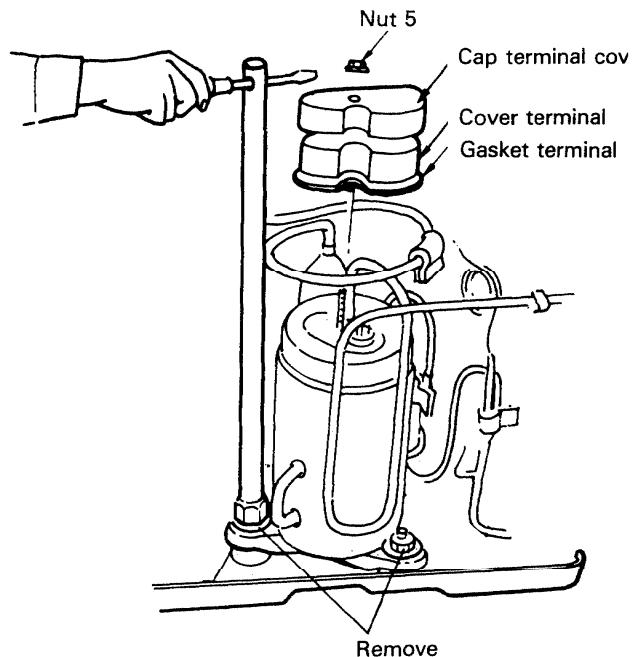

Fig. D-12
5. Remove all anchor nuts which are used to secure the compressor in the unit. Fig. D-12, 14.